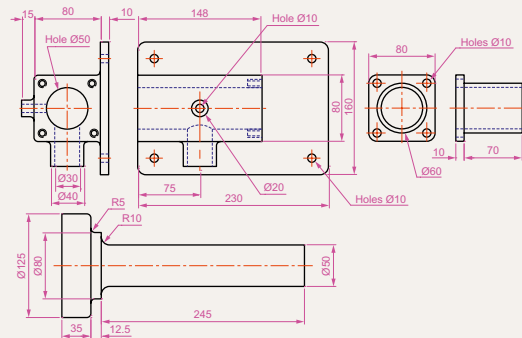
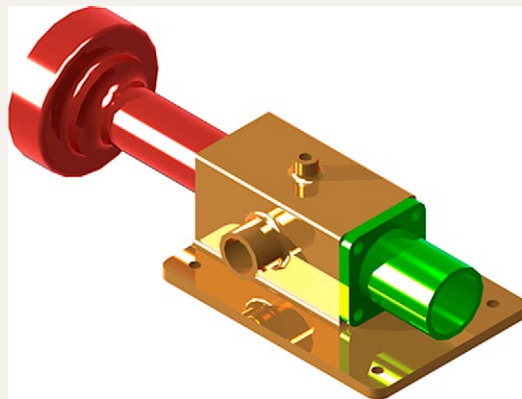

Fig. 18.22 Exercise 2 – details of shapes and sizes
Fig. 18.23 Exercise 2
2. Working to the dimensions given in the orthographic projections of the three parts of this 3D model (Fig. 18.22), construct the assembled as shown in the rendered 3D model (Fig. 18.23). Add suitable lighting and materials, place in one of the isometric viewing position and render the model.